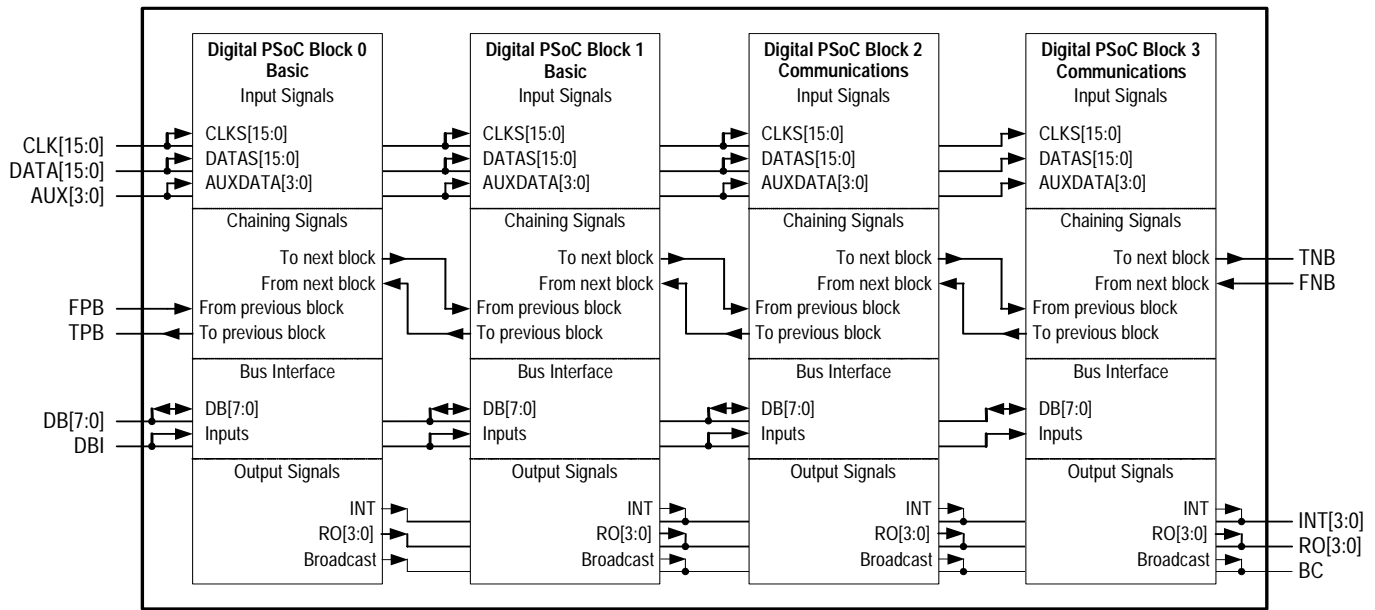
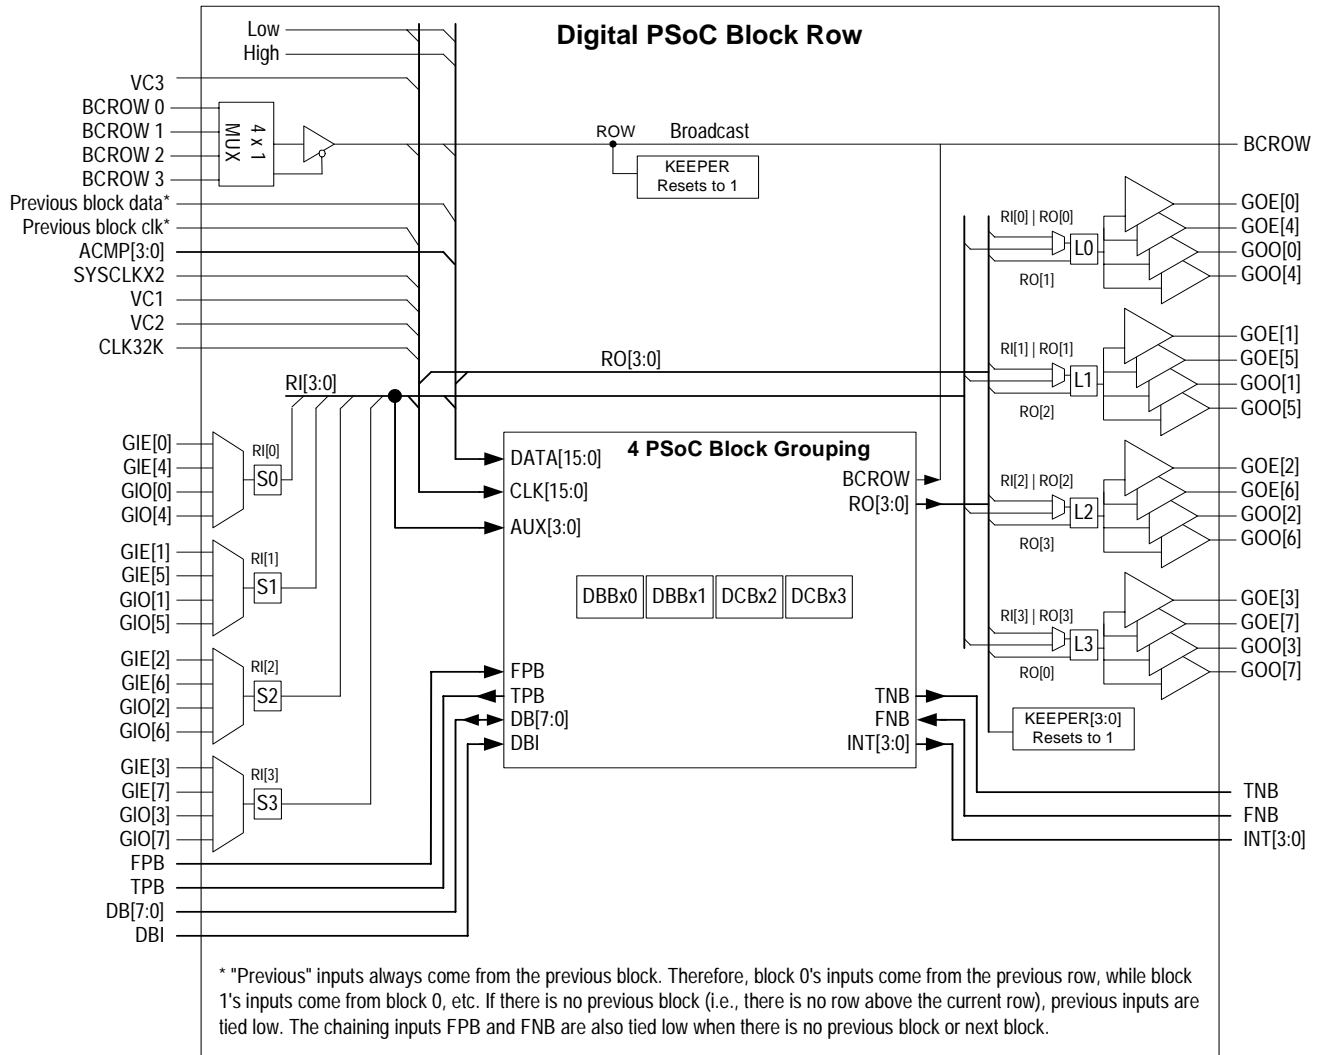

Figure 16-1. Detailed View of Four PSoC Block Groupings
Figure 16-2. Digital PSoc Block Row Structure
In Figure 16-1, within a Digital PSoC Block row, there are four digital PSoC Blocks. The first two blocks are of the type basic (DBB). The second two are of the type communication (DCB). This figure shows the connections between digital blocks within a row. Only the signals that pass through the bold line in Figure 16-1 are shown at the next level of hierarchy (Figure 16-2 on page 185).
In Figure 16-2, the detailed view of the four PSoC block grouping, as seen in Figure 16-1, has been replaced by the box in the center of the figure labeled “4 PSoC Block Group-
ing.” The rest of the configurable nature of the Row Inputs (RI), Row Outputs (RO), and Broadcast clock net (BC) is shown. The next level of hierarchy is shown in Figure 16-1.
The only configurable inputs to a Digital PSoC Block Row are the Global Input Even and Global Input Odd 8-bit buses. The only configurable outputs from the Digital PSoC Block Row are the Global Output Even and Global Output Odd 8-bit buses. Figure 16-2 on page 185 illustrates the relationships between global signals and row signals.
Notice on the left side of Figure 16-2 that global inputs (GIE[n] and GIO[n]) are inputs to 4-to-1 multiplexers. The output of these multiplexers are Row Inputs (RI[x]). Because there are four 4-to-1 multiplexers, each with a unique set of inputs, a row has access to every global input line in a PSoC device.
The outputs from a Digital PSoC Row are a bit more complicated than the inputs. Figure 16-2 on page 185 illustrates the output circuitry in a Digital PSoC Row. Notice in the figure a block labeled “Lx.” This block represents a 2-input lookup table (LUT). The LUT allows the user to specify any one of 16 logic functions that should be applied to the two inputs. The output of the logic function will determine the value that may be driven on to the Global Output Even and Global Output Odd busses. Table 16-5 lists the relationship between a lookup table’s four configuration bits and the resulting logic function. Some users may find it easier to determine the proper configuration bits setting by remembering that the configuration’s bits represent the output column of a two input logic truth table. Table 16-5 lists seven examples of the relationship between the LUT’s output column for a truth table and the LUTx[3:0] configuration bits.